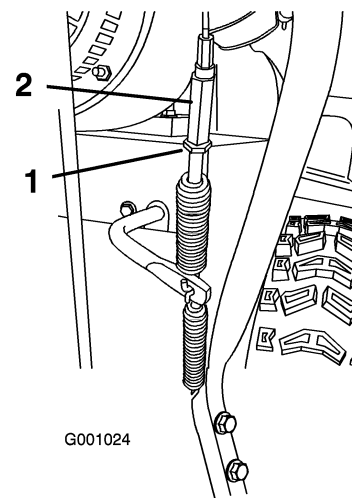

Figure 41
5. Loosen the jam nut (Figure 41).
6. Loosen or tighten the turnbuckle that adjusts the tension on the cable (Figure 41).